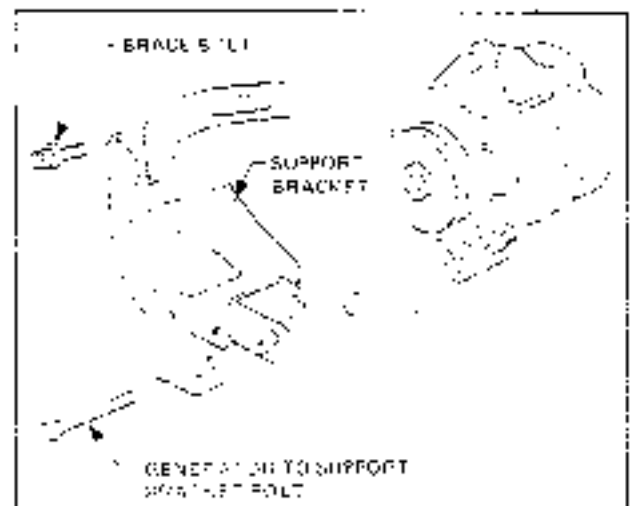

Figure 8B-1
3. Remove generator brace hole (Fig 8B-1), disengage fan belt from generator pulley. Loosen generator in support bracket bolt and nut (Fig 8B-1) and swing generator down away from the engine block.